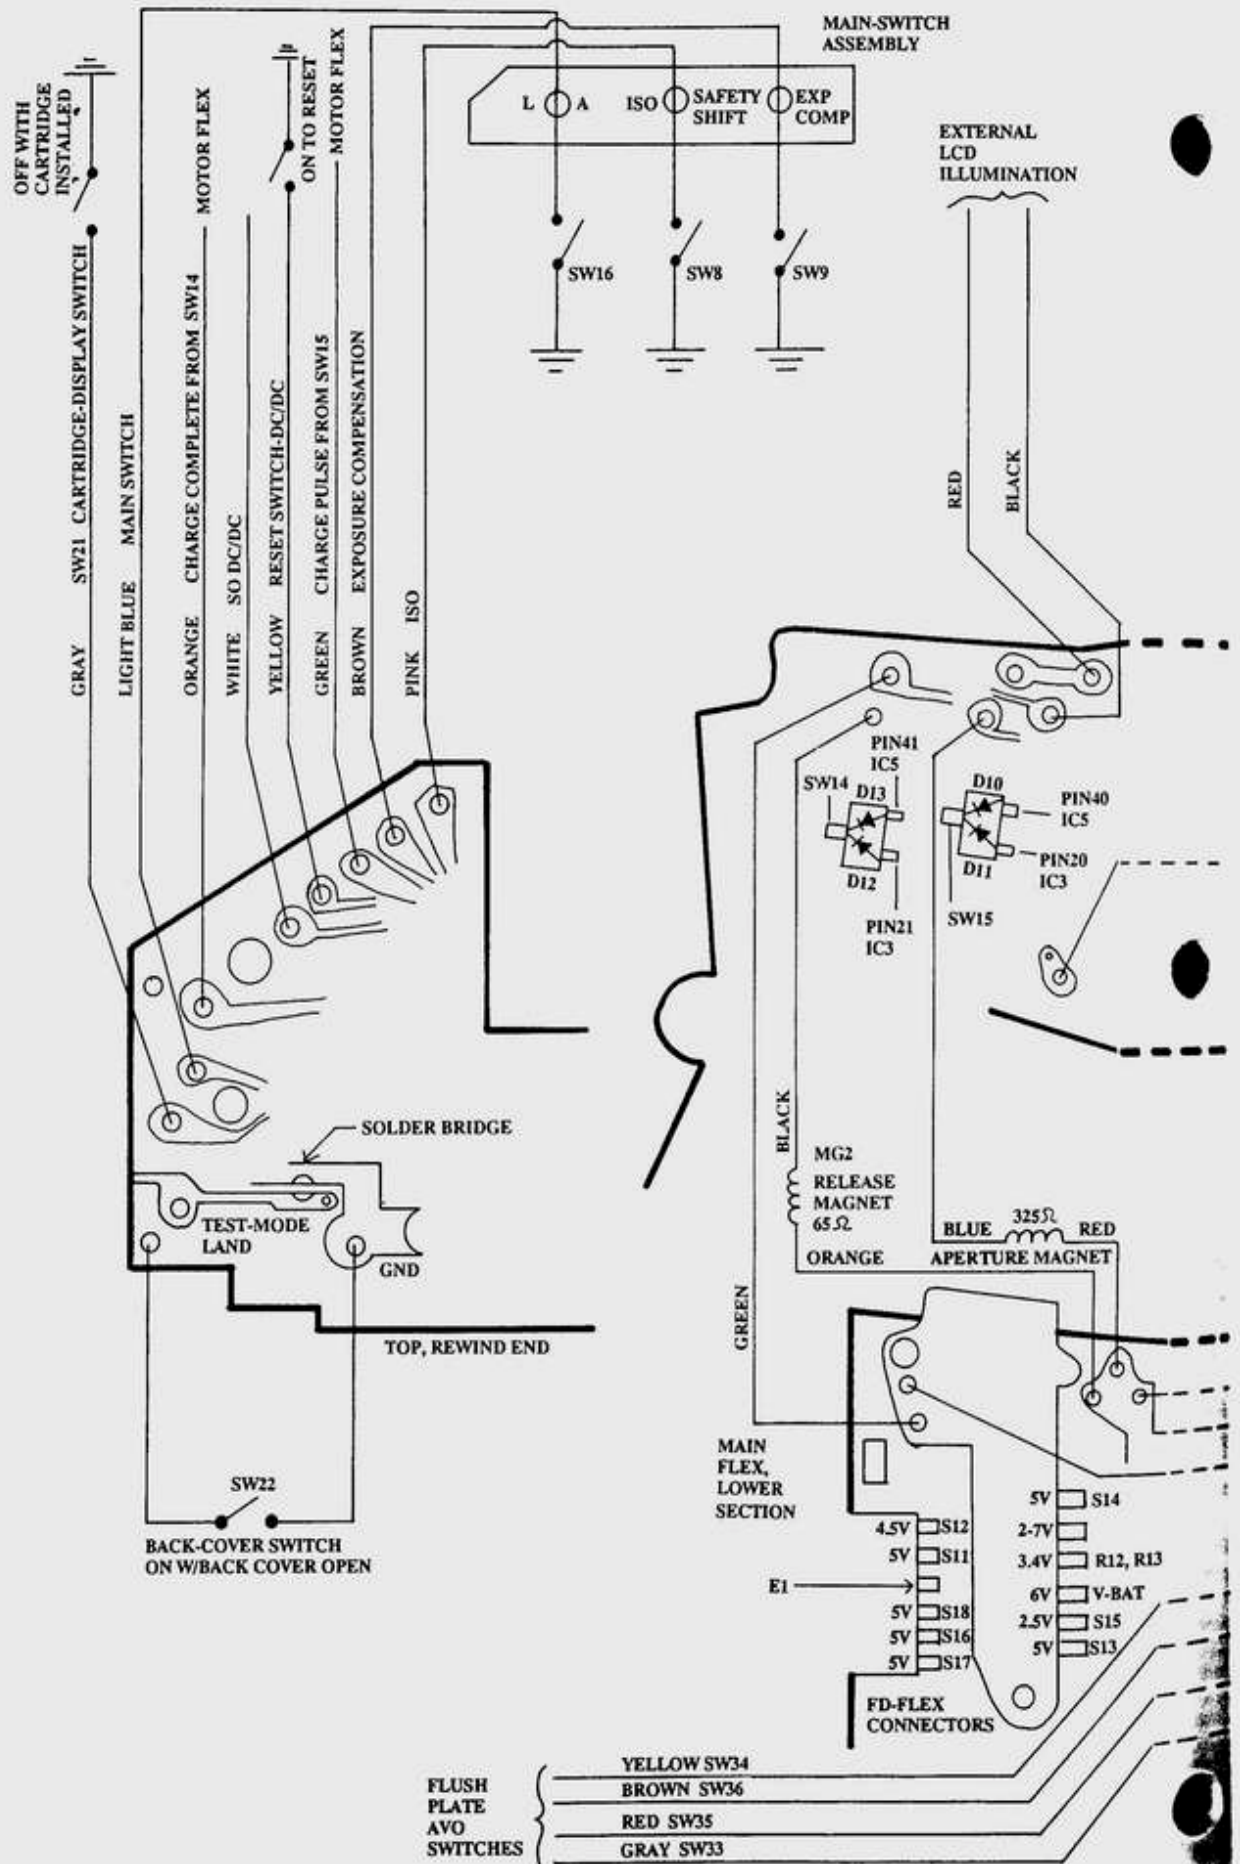

FIG. 28 - PICTORIAL, TOP OF MAIN FLEX
Note: If you want to use the battery case to power the camera, leave the red, black, and yellow wires attached. To power the camera with a power supply, connect hook-up wires to the lands for the red (+) and black wires. Connect 6V between the hook-up wires. Momentarily short the yellow reset-switch wire, Fig. 28, to ground to reset the circuit. The external LCD should turn on when you remove the short, and the camera should operate.
10. unsolder wires, top rewind end, Fig. 28
Note: In early versions of the flex, only the top 3 connections solder directly to the shutter flex. Wires connect the 1st-curtain and 2nd-curtain switch contacts on the shutter flex to the switch-test points on the main flex, Fig. 28 (brown wire for 1st-curtain switch, white wire for
5. Check the mirror operation by first disconnecting the orange release-magnet wire, top rewind side of flex, Fig. 28. If the mirror is charged, apply 2 - 3V across the release magnet -- + to orange, - to black. The mirror should release and stay in the raised position (if the mirror isn't charged, run the charge motor until the mirror-charge lever moves fully forward and then drops back).